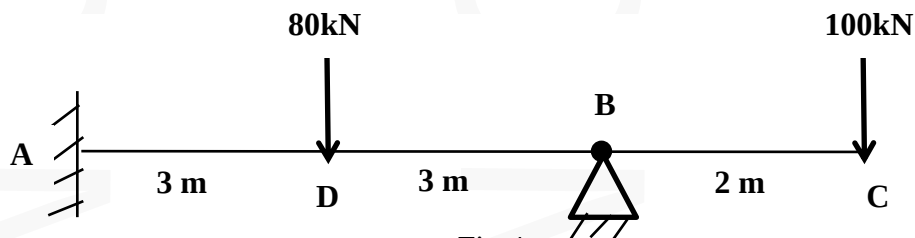

Fig.4
- 14 a) Analyse the propped cantilever beam shown in fig.4 using consistent deformation method (Choose the reaction at B as redundant) . 10